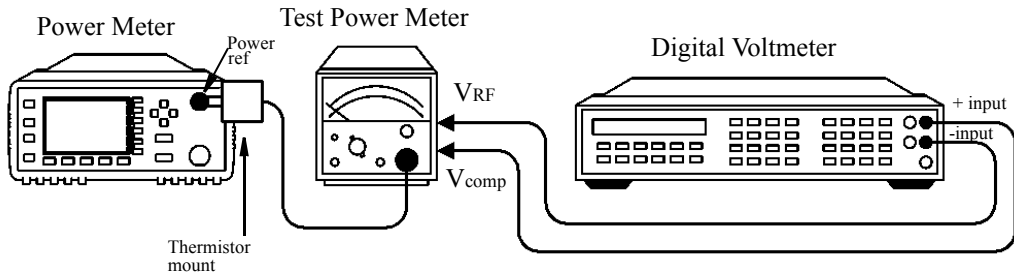

Figure 2-4: Power Reference Level Test Setup
<ol style="list-style-type: none"> 1. Set the DVM to measure resistance: Connect the DVM between the V_{RF} connector on the rear panel of the Keysight 432A and pin 1 on the thermistor mount end of the sensor cable. Verify that no power is applied to the Keysight 432A. 2. Round off the DVM reading to two decimal places and note this value as the internal bridge resistance (R) of the Keysight 432A (approximately 200 Ω). • R _____ Ω 3. Connect the equipment as shown in Figure 2-4, ensuring that the DVM input leads are isolated from chassis ground.